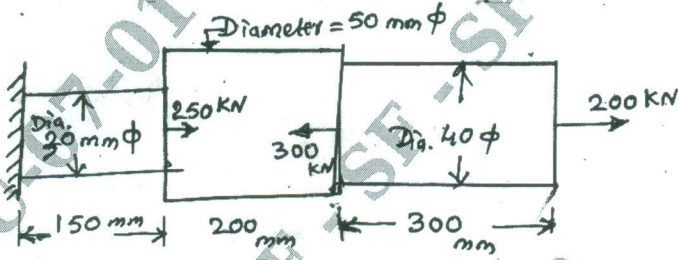

Fig. Q1 (c)
- c. A stepped bar is subjected to axial forces as shown in Fig. Q1 (c). Determine total deformation in the bar and stresses induced in each part. $E = 2 \times 10^5 \text{ N/mm}^2$.